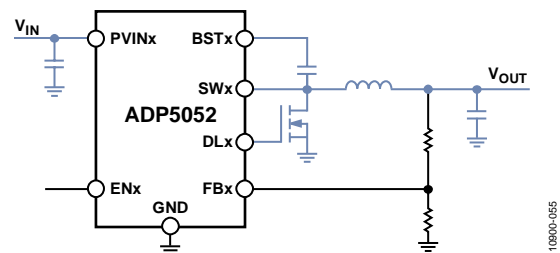

Figure 52. Typical Circuit with High Current Traces Shown in Blue
- Ensure that the high current loop traces are as short and wide as possible. Figure 52 shows the high current path.